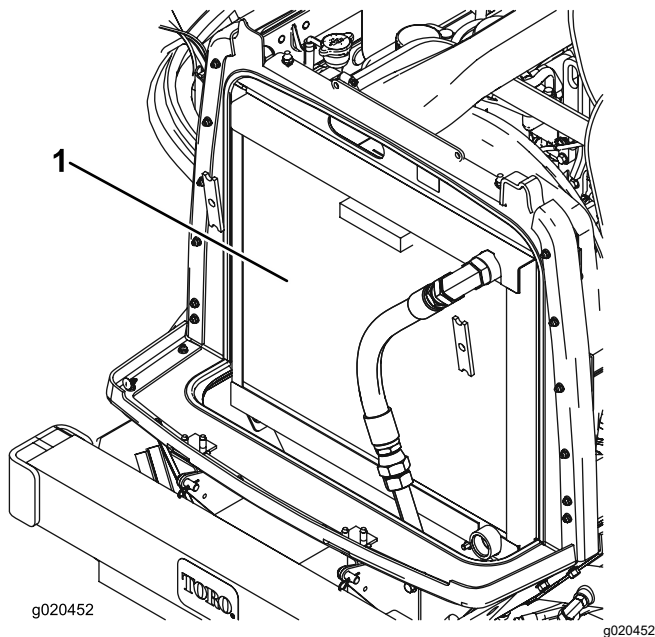

Figure 80
3. Clean both sides of the radiator/oil cooler area thoroughly with compressed air (Figure 80).